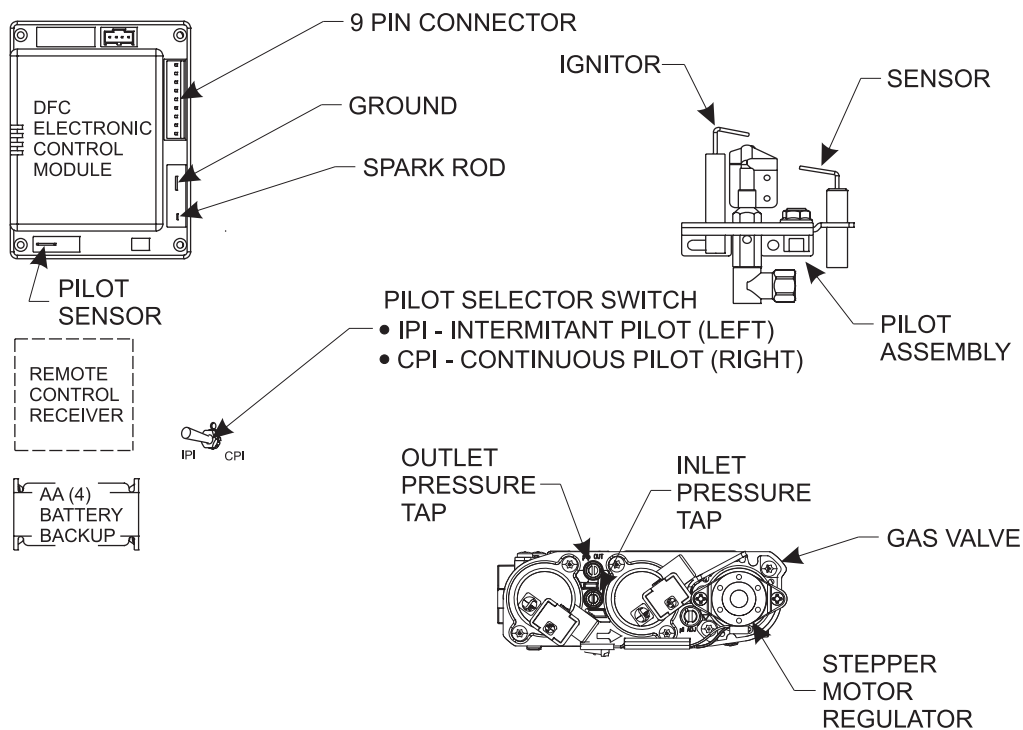

Figure 24
Note: A small toggle switch is located on a bracket that is used to switch from IP (left position) to the CPI (right position). See **Figure 24**.
3. The gas valve has inlet and outlet pressure taps as shown in **Figure 24**. Refer to pages 15 - 16 for gas pressure requirements.